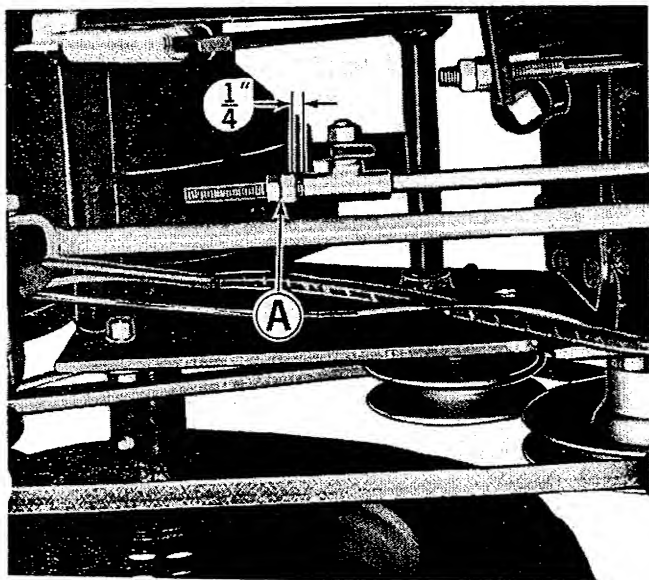

Figure 10. Clutch free travel adjustment.
See figure 10. The clutch free travel is correct when there is $\frac{1}{4}$ " between the nuts (A) and the rod guide when the clutch brake pedal is released and pulled rearward as far as it will go. If adjustment is required, proceed as follows:
2. Using two wrenches hold the forward nut at (A) stationary with one wrench while turning the rearward nut counter-clockwise slightly with the other to separate them.
4. Turn the forward nut at (A) as necessary so that the distance between it and the rod guide is $\frac{1}{4}$ " as shown in figure 10.
5. Using two wrenches hold the forward nut at (A) stationary while turning the rear one clockwise to tighten the two nuts together securely.